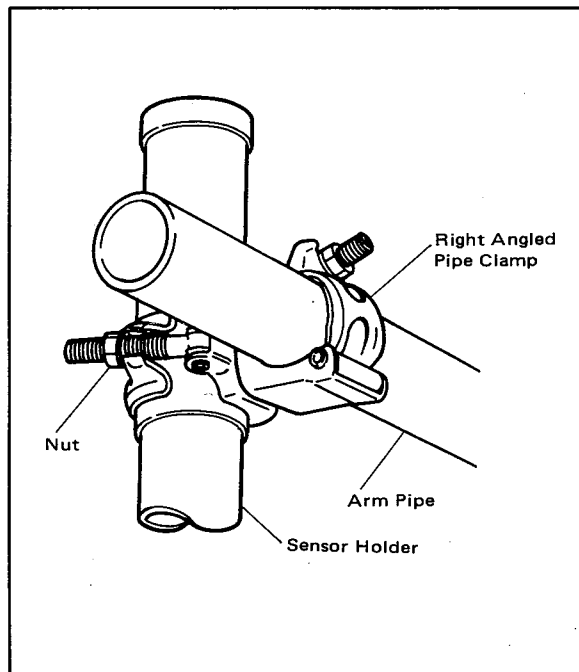

Figure 2-3. Sensor Holder Removal (Pipe Mounting Type).
- (1) Pass the sensor cable through the sensor holder. If a submersion type holder has been installed, remove the sensor holder temporarily. For a pipe mounting submersion type holder without cleaner, loosen the nut on the right angled pipe clamp to remove the holder (see Figure 2-3).